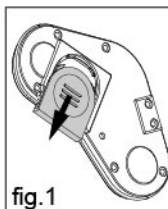

fig.1
- Open the battery cover (See fig.1).